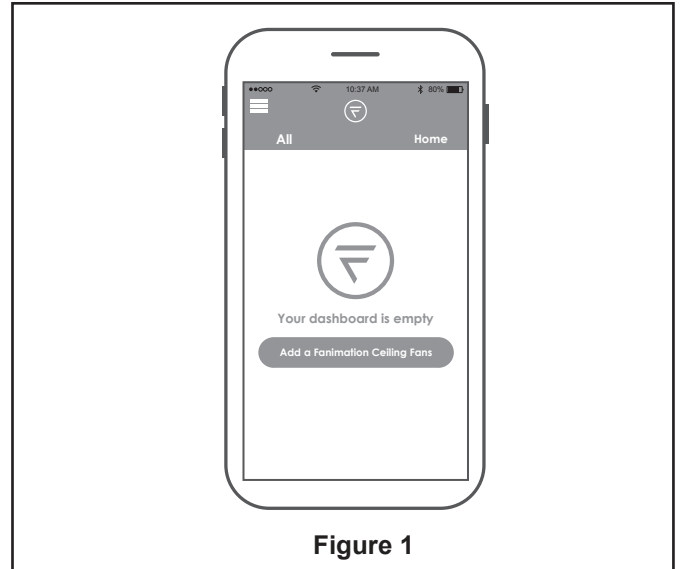

Figure 1
- 1. Visit the Apple APP Store or the Google Play Store to download the free fanSync WiFi APP. Create your Fanimation fanSync account. (Figure 1)
- 1. Installing Wall Plate:** (Figure 1)